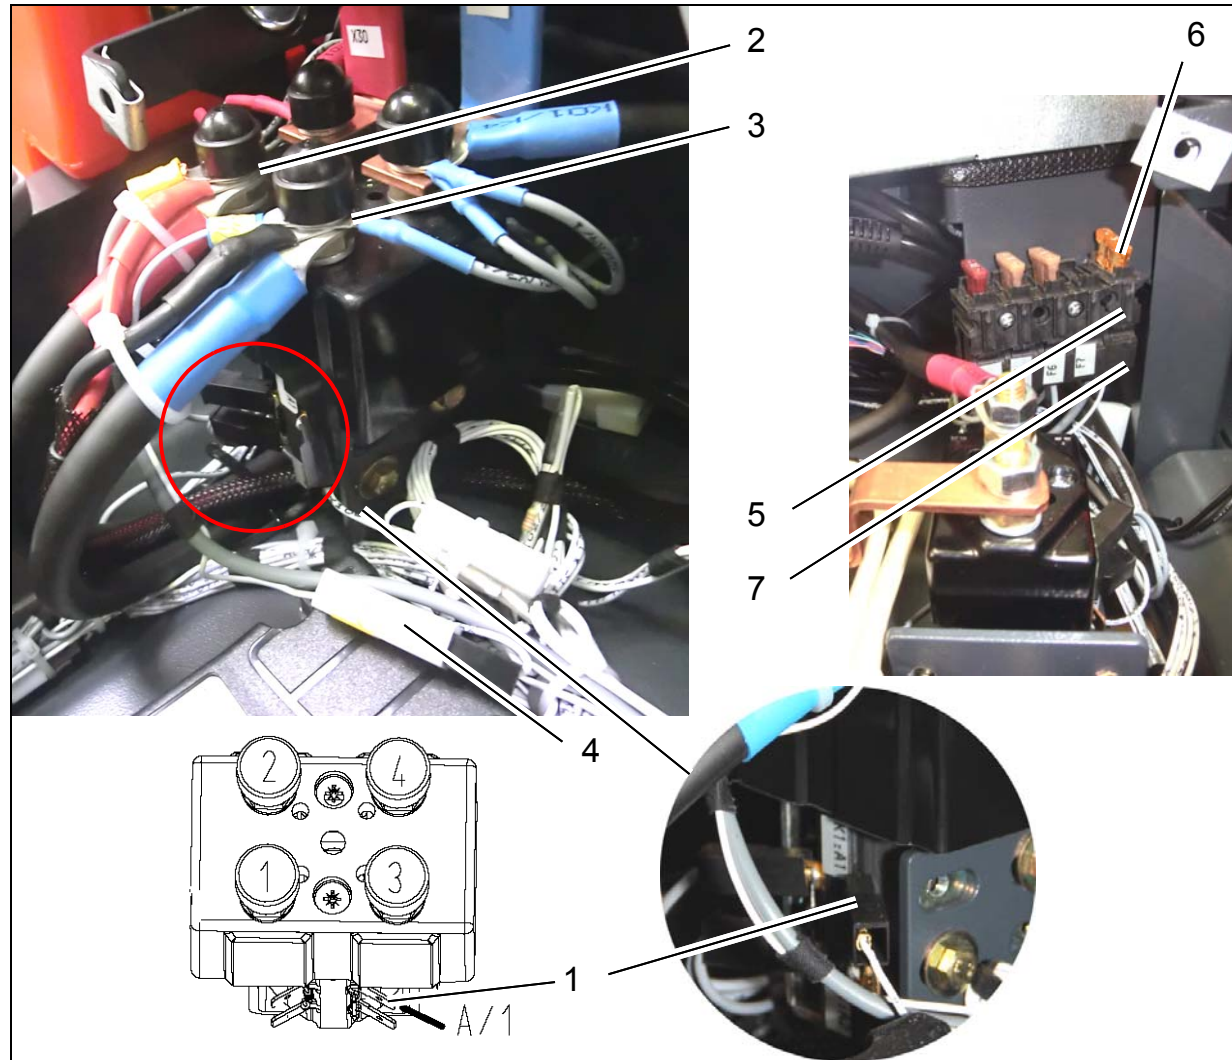

Fig. 11
- Connect XK01/A1 to the second connection of K01/A1 (Fig. 11/1).
- Ring cable lug of connection K01/K1 (Fig. 11/2).
- Ring cable lug of connection K01/K3 (Fig. 11/3)
- Connect the plug X4/B6 to the plug of the W77 cable loom (Fig. 11/4).
3. Attach fuse holder F20 from the W79 cable loom on the right next to fuse holder F7 (Fig. 11/5).
4. Insert fuse insert 5A into the fuse holder (Fig. 11/6) and affix the sticker (Fig. 11/7).